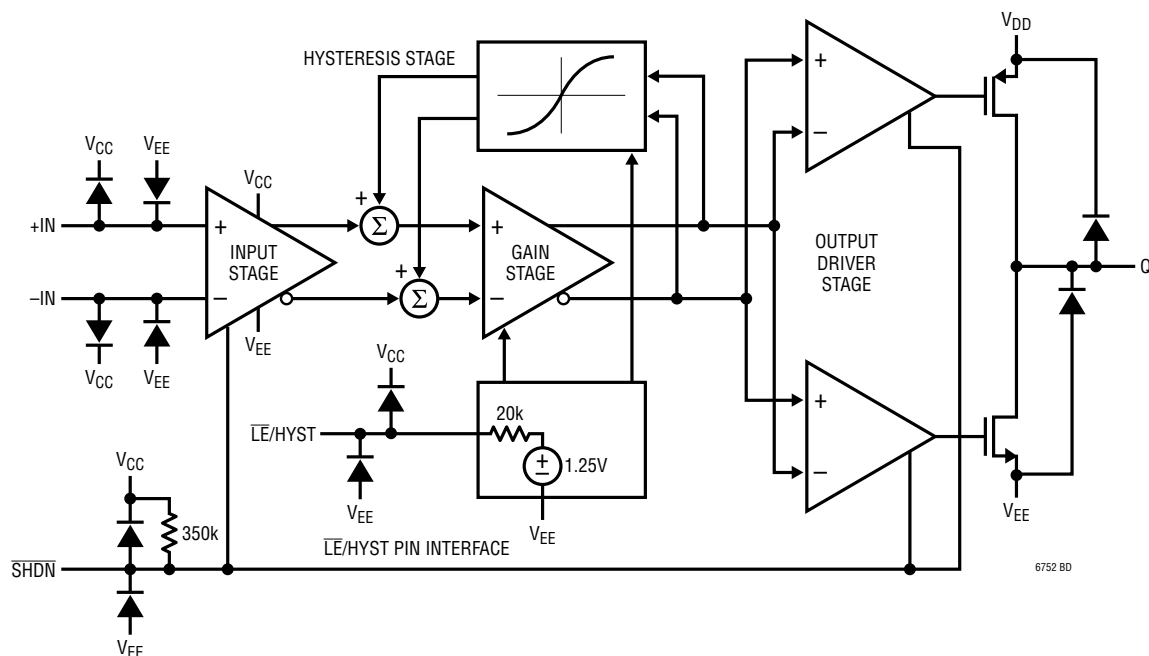

Figure 1. LTC6752/LTC6752-2 Block Diagram
The block diagram is shown in Figure 1. There are differential inputs (+IN, -IN), a negative power supply ( $V_{EE}$ ), two positive supply pins:  $V_{CC}$  for the input stage and  $V_{DD}$  for the output stage, an output pin (Q), a pin for latching and adjusting hysteresis ( $\overline{LE}/HYST$ ), and a pin to put the device in a low power mode ( $\overline{SHDN}$ ). In the LTC6752, the two positive supply pins are bonded together and referred to as  $V_{CC}$ . The signal path consists of a rail-to-rail input stage, an intermediate gain stage, and an output stage driving a pair of complementary FETs capable of taking the output pin to either supply rail. A Latching/Hysteresis interface block allows the user to latch the output state and/or remove or adjust the comparator input hysteresis. All of the internal signal paths make use of low voltage swings for high speed at low power.
The LTC6752 family members have reverse-biased ESD protection diodes on pins as shown in Figure 1.